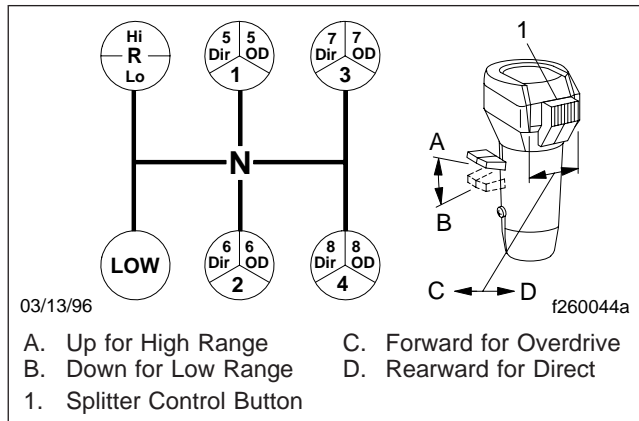
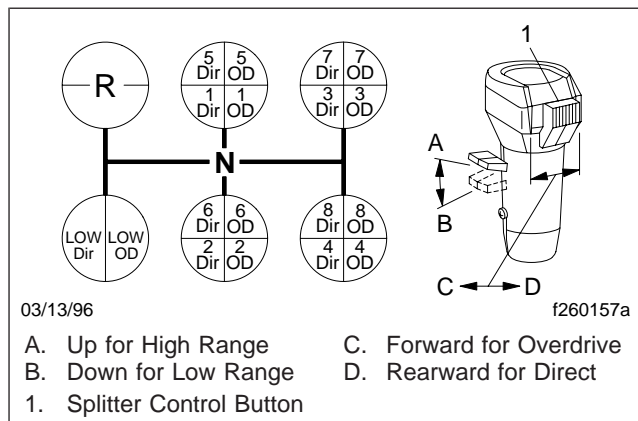

Fig. 8.4, Eaton Fuller 13-Speed RTO Model Transmissions Shift Patterns
Fig. 8.5, Eaton Fuller 18-Speed RTLO Model Transmission Shift Patterns
Eaton Fuller 13-speed RTO model transmissions have thirteen forward speeds and two reverse speeds. Each transmission consists of a 5-speed front section, and a 3-speed auxiliary section. The auxiliary section contains low- and high-range ratios, plus, an overdrive splitter gear. See Fig. 8.4 for the shift patterns.
- Position the range preselection lever down, into low range. See Fig. 8.4 or Fig. 8.5.
- Make sure the splitter control button is in the direct (rearward) position. See Fig. 8.4 or Fig. 8.5.
To shift from low direct to low overdrive, move the splitter control button (Fig. 8.5) into the overdrive (forward) position, then immediately release the accelerator. Press and release the clutch
Shift upward from low to 1st gear, 2nd, etc. until 4th gear, double-clutching between shifts, and accelerating to 80 percent of engine governed speed. See Fig. 8.4.
Shift upward from low overdrive to 1st direct by first moving the splitter control button into the direct (rearward) position (Fig. 8.5). Move the shift lever, double-clutching, to the 1st gear position.
To shift from 5th direct to 5th overdrive, move the splitter control button (Fig. 8.4) into the overdrive (forward) position, then immediately release the
To shift from 5th direct to 5th overdrive, move the splitter control button (Fig. 8.5) into the overdrive (forward) position, then immediately release the accelerator. Press and release the clutch pedal. After releasing the clutch, accelerate again.